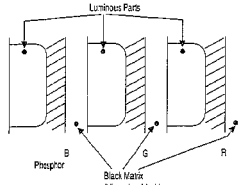

Fig. 2-1-2-6. Enlarged view of screen with microscope
(13) To improve the mislanding mentioned above, it's acceptable to stick the permanent magnet to CPT funnel. (Fig. 2-1-2-7 and Fig. 2-1-2-8)